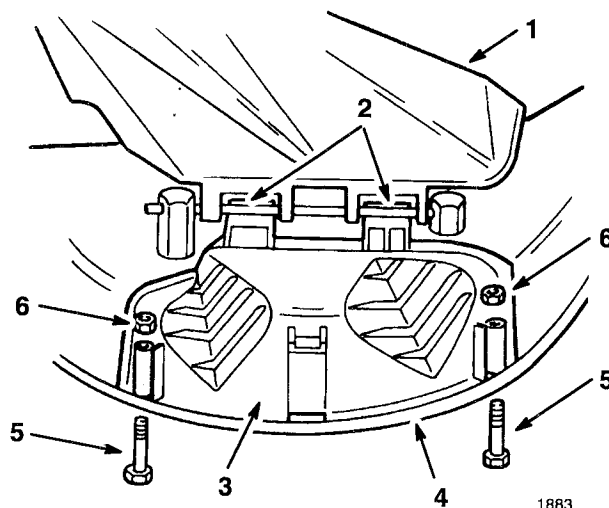

Figure 12
1. Lift the grass deflector and slide the tabs on top of the discharge cover under the grass deflector retaining rod. Rotate the discharge cover down over the opening, and onto the lower lip of the mower (Fig. 12).
2. Secure the discharge cover to the lower lip of the mower with bolts and nuts (Fig. 12).